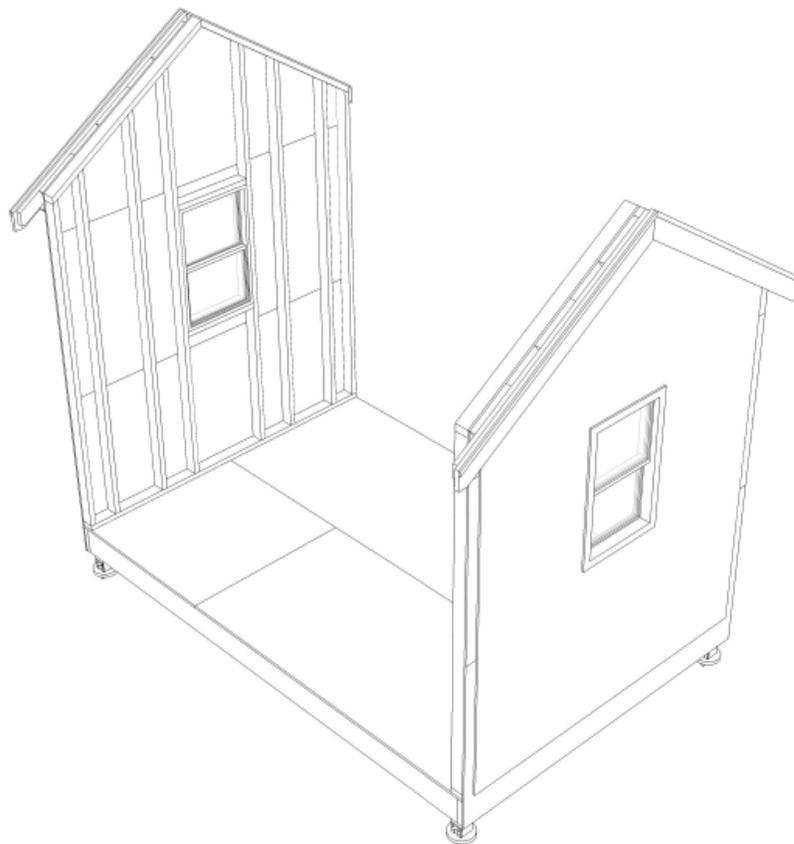

fig.9- Wall Framing Assembly - End Walls in Place
- See fig.9 for resulting assembly (bracing not shown).